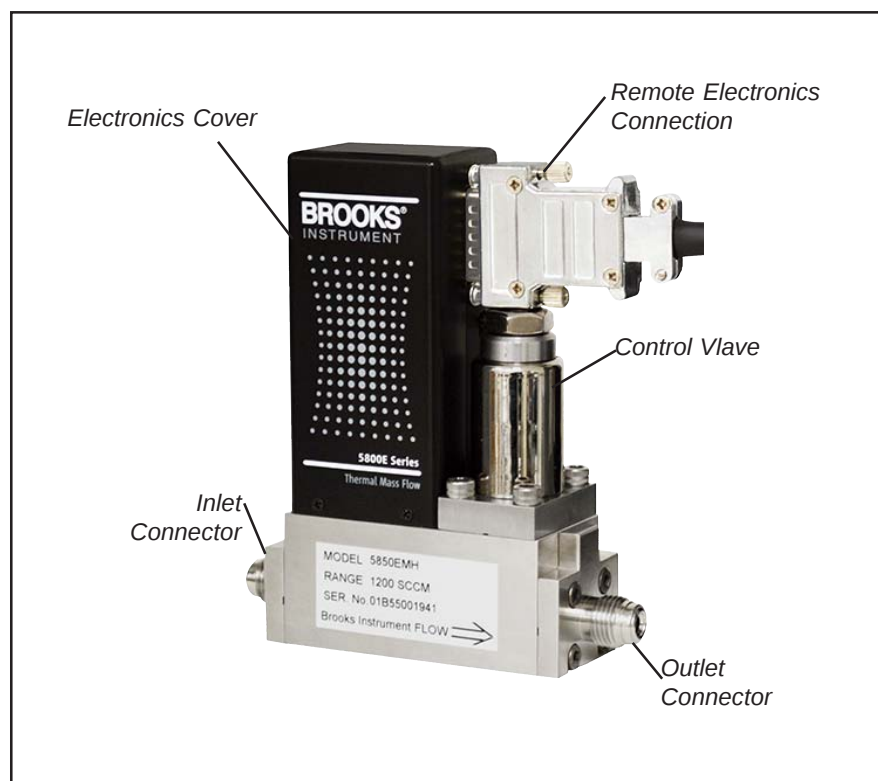
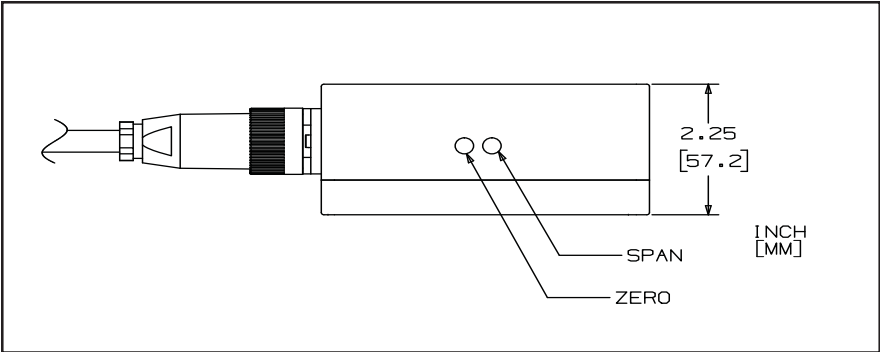

Figure 3-1 Model 585xEMH Controller Components
Figure 3-2 Externally Accessible Adjustments at Remote Electronics Box
Figure 3-1 shows the locations of the Model 585xEMH controller connections. Figure 3-2 identifies the externally accessible adjustment potentiometers located on the remote electronics box on the side opposite the 15-pin D sub connector. Figure 3-3 shows the 15 pin D-sub connector. Figure 3-4 identifies the pin out diagram for the 15 pin D-sub connector.
All Model 585xEMH instruments are factory calibrated for optimum performance. The only potentiometer recommended for field adjustment is the Zero. Reference Figure 3-2 to access the Zero Potentiometer adjustment screw. N. B. We recommend removing the cover to ensure you are accessing the correct potentiometer. The Span Adjustment is also accessible by removing the plug on the remote electronics box adjacent to the Zero Potentiometer; however, its adjustment is not recommended as described below.
a. Once zero differential pressure is established and verified, check the flow output signal using a suitable voltmeter. If it differs from the factory setting, adjust it by removing the lower pot hole plug (refer to Figure 3-2) which is located closest to the 7-pin circular connector on the remote electronics module. Adjust the zero potentiometer until the desired output signal is within ± 10 mV of zero on the output of the device.